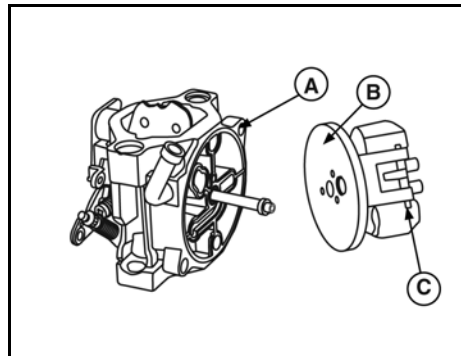

Figure 57
2. Remove the solenoid (C) from the fuel bowl. Discard gasket.
3. Remove the fuel transfer tube (B) from the carburetor base (A, Figure 57). Discard o-rings.
4. Pull the hinge pin (C) from the float assembly. Separate the float and inlet needle. Discard the hinge pin and inlet needle.